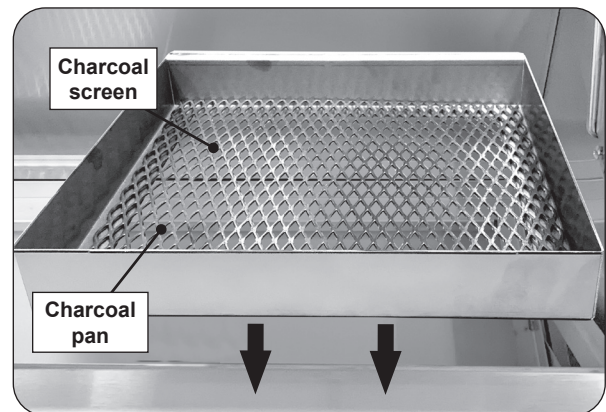

Fig. 14-3 Install charcoal pan
2. Take the tray with screen, carefully orient it inside the grill, and rest it on the cranking frame. See Fig. 14-3.